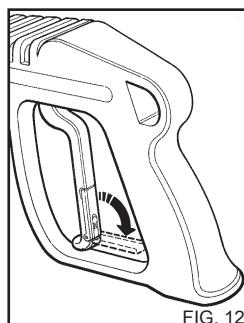

FIG. 12
**⚠** When the water cleaner is not used, close the safety device on the handle (fig. 12).